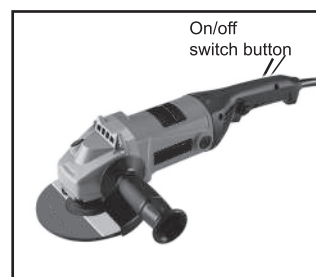

Fig 4
- SWITCH** (see fig 4)
The On/Off trigger switch is sprung in the OFF position. The angle grinder is started by pushing forward the on/off switch. See fig 4. To stop the angle grinder, release the on/off switch and it will return to the OFF position.